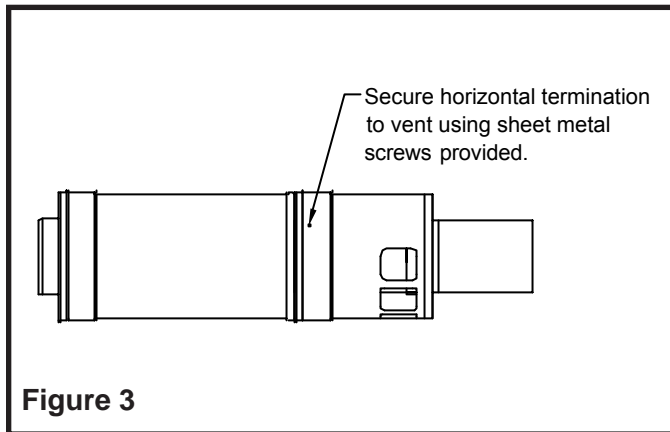
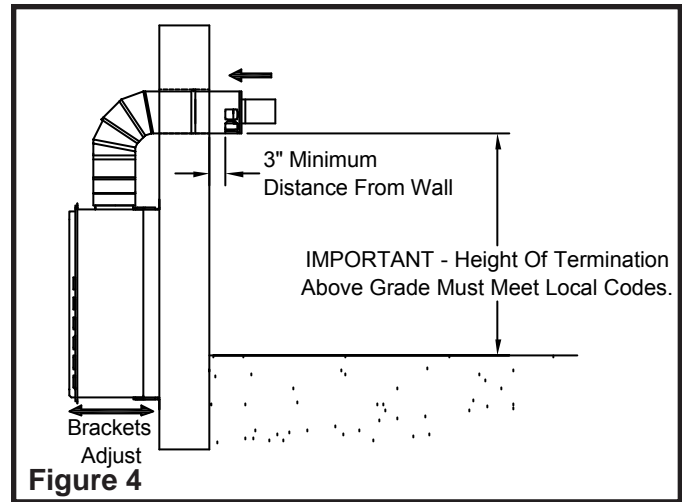

Figure 3
Figure 4
The assembled parts will appear as shown in **Figure 3**.
- 13) Assemble the vent pipe section from **Figure 3** into the hole cut in the wall and connect the vent pipe to the Horizontal Adaptor as shown in **Figure 4**.
- 14) The Horizontal Termination must be rotated so that the openings are located on the bottom side of the vent (See **Figure 4**). The distance from the openings must be no less than 3" from the exterior surface of the wall.